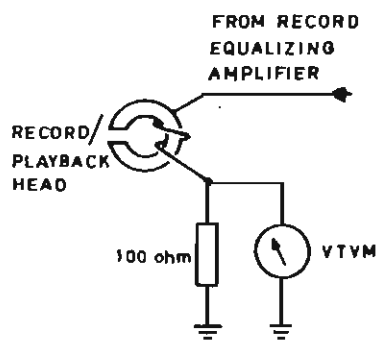

Fig. 6.6
Connect a signal generator to HIGH INPUT L (R) and a VTVM to a 100 ohm resistor in series with upper, channel L (lower channel R) record/playback head to ground (black wire). Ref. fig. 6.6. Short-circuit secondary winding of oscillator transformer T301. Set the signal generator to 400 Hz and adjust the level 30 dB below optimum recording level. Start the tape recorder in record position and check the frequency response according to fig. 5.5. Deviation for all frequencies must not exceed  $\pm 2.5$  dB. Difference in level between the two channels should be less than 4 dB at all frequencies. Check the frequency response at all tape speeds.